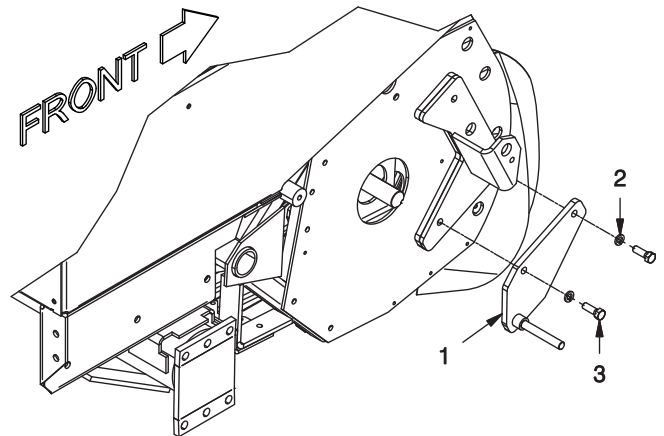

Figure 1 - Pickup Depth Wheel Bracket
A. Place (1) BKT0021956 Bracket on the pickup as shown in Figure 1. Place (2) 234665 Lock Washers and (2) 229171 Bolts as shown in Figure 1. Torque all nuts and bolts as per torque chart on page 1.